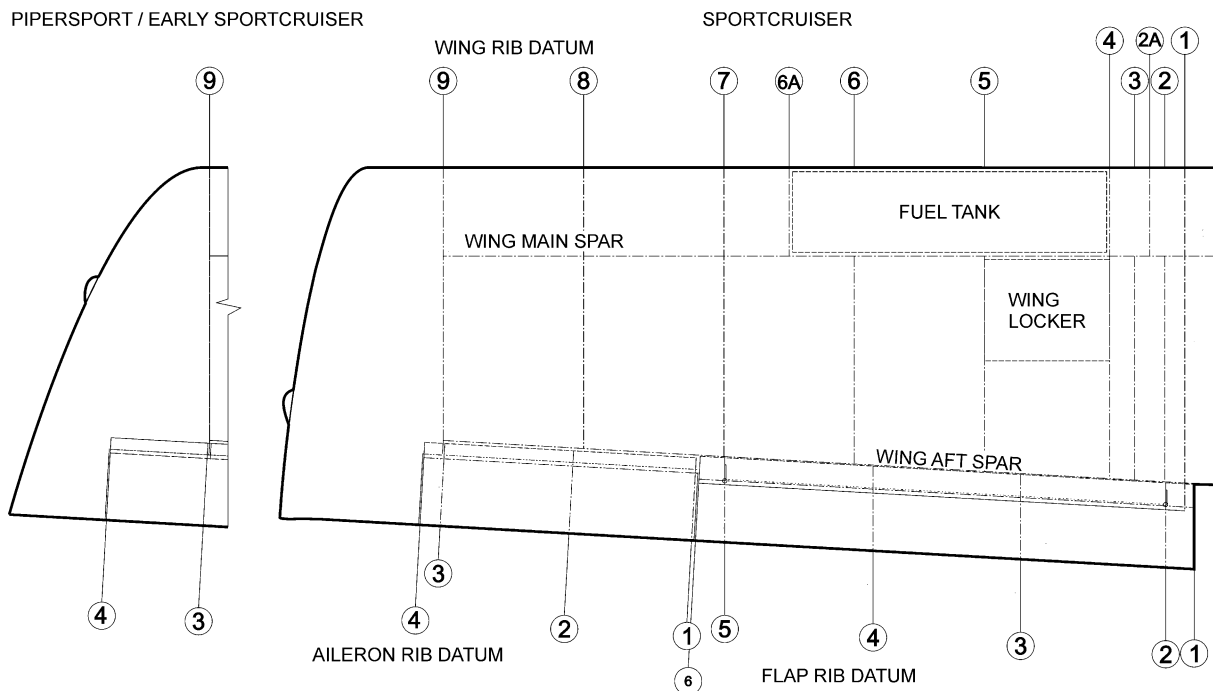

Fig. 4-1: Wing layout
The wing of the airplane is formed from center section of wing made as main and rear spar, which is integrated part of fuselage (Fig. 3-1), and from outer wings placed between ribs No. 1 and 9, which have trapezoid shape (Fig. 4-1). The wing is of all-metal main spar structure with a rear spar. In the outer wings are installed between ribs No. 4 and 6a leading edge fuel tanks, on the aft spar there are hinged ailerons (1, Fig. 4-2) and flaps (2). The wing tips (3), made out of fiberglass, are riveted on the wing ribs No. 9. On wing tips are installed the position lights (6). The outer wing is attached to the center section by means of 6 bolts (4) and the rear attachment (5) (positioned on the rear spar). The aileron control push rods are lead between the spars. The aileron trim tab is installed on the right aileron.